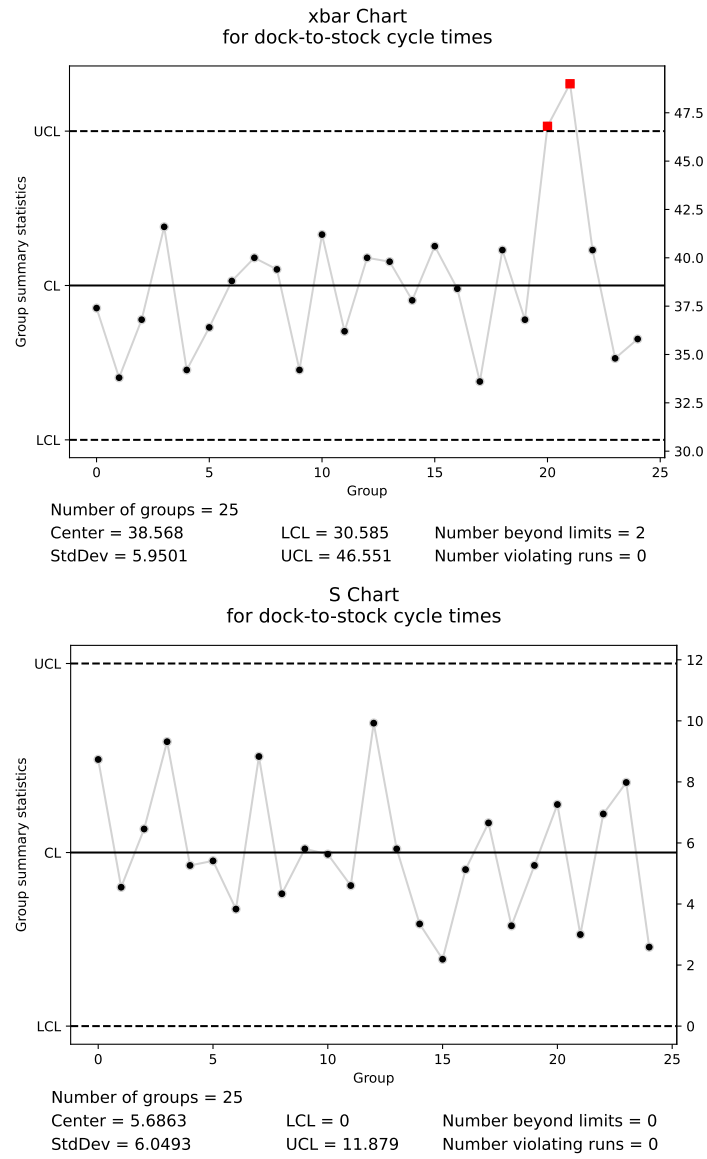

Fig. 3.6: Xbar and S-chart of dock to stock cycle times (Exercise 3.10)
**Solution 3.10** (i) In Fig. 3.6, we see the  $\bar{X}$  and  $S$  control charts. Points for days 21 and 22 are outside the UCL for  $\bar{X}$ . Excluding these points, the recalculated control chart limits for  $\bar{X}$  are LCL = 29.731 and UCL = 45.781. Also,  $\bar{\bar{X}} = 37.757$ .